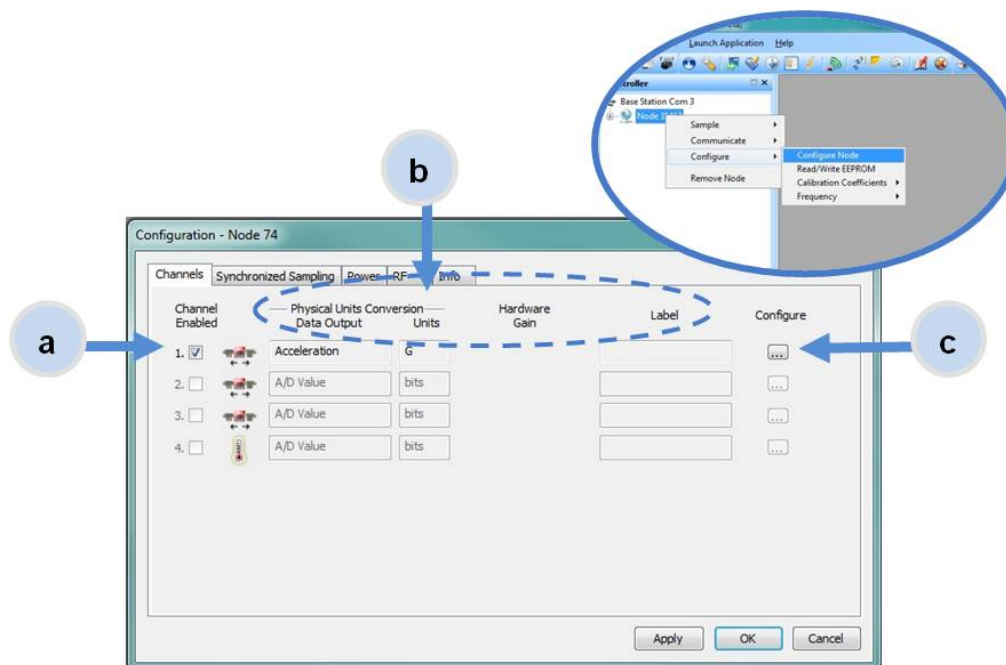

Figure 7 - Node Channels Menu
2. To enter the channel configuration menu, select the Configure button as shown in Figure 7 - Node Channels Menu. The channel configuration menu options change depending on the sensor type selected.